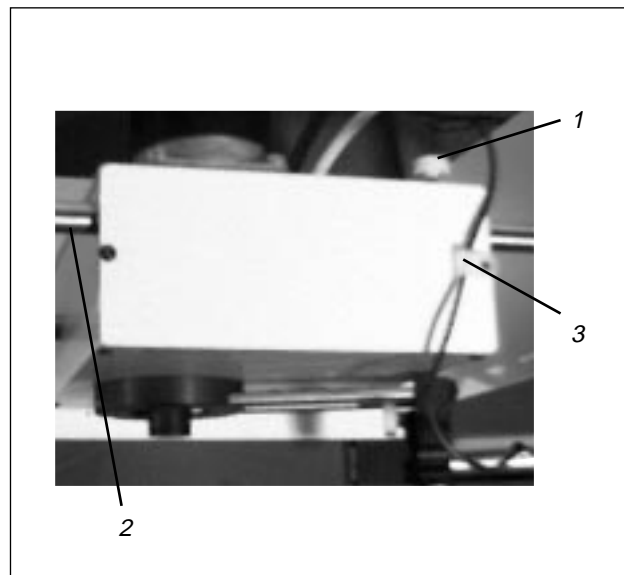

Fig. 6.1
A milled screw (1) at the back of the goniometer block (Fig. 6.1) allows this to be fixed on its guide rod (2). The cable of the counting tube is best clamped in the clip (3) on the top of the block.